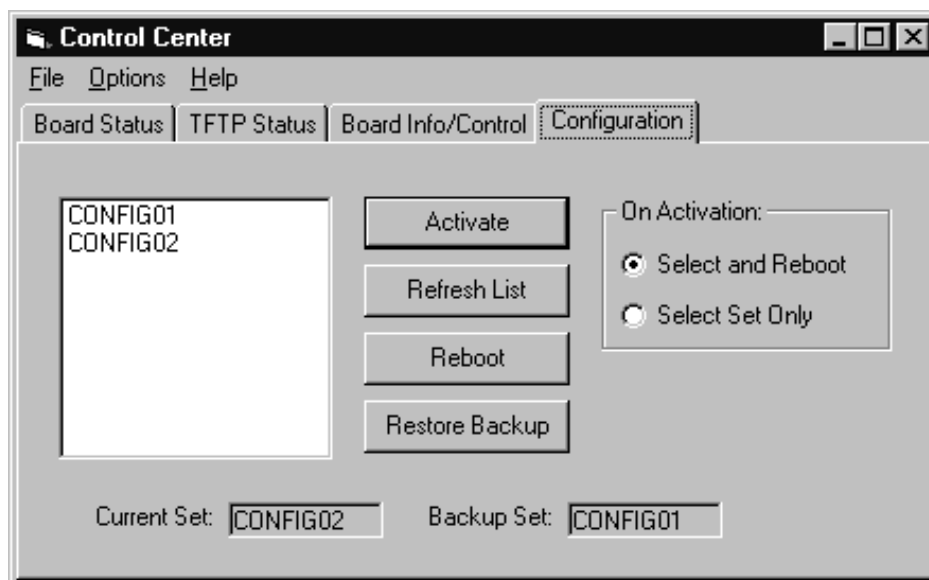

Figure 5-10.
4. Use the JNS Console to start the Jupiter Network Suite (JNS) application “Control Center” (as described in Section 4.) This will open a window similar to that shown in Figure 5-10.